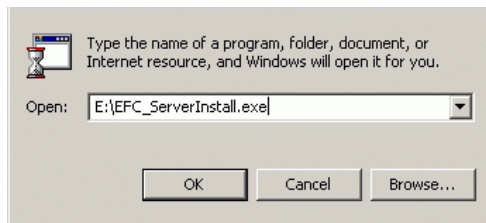

Figure E-1 Run Dialog Box
10. At the server Windows 2000 desktop, click *Start* at the left side of the task bar, then select the *Run* option. The *Run* dialog box displays (*Figure E-1*).